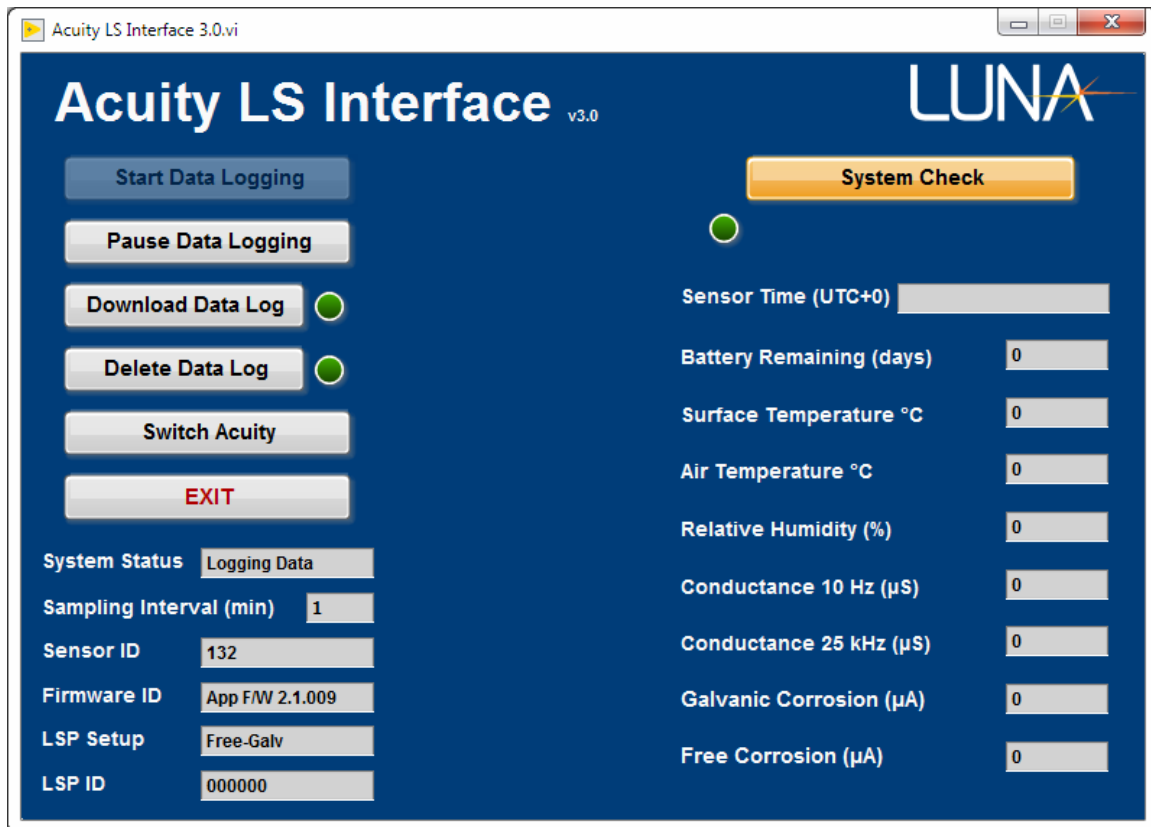

Figure 8. Acuity LS user interface main screen appears once communications are established.
- a. If the correct COM port has been selected, the software will verify communications with the Acuity LS and automatically advance to the main screen (Figure 8).
The Acuity LS user interface main screen appears once communications are established (Figure 8).
NOTE: The total time-integral data in columns J – M are calculated using all stored data on the Acuity LS device. If new total time-integral data starting at zero is desired, all data must be deleted from the Acuity LS device using "Delete Data Log" in the user interface main screen (see Section 5, Figure 8).